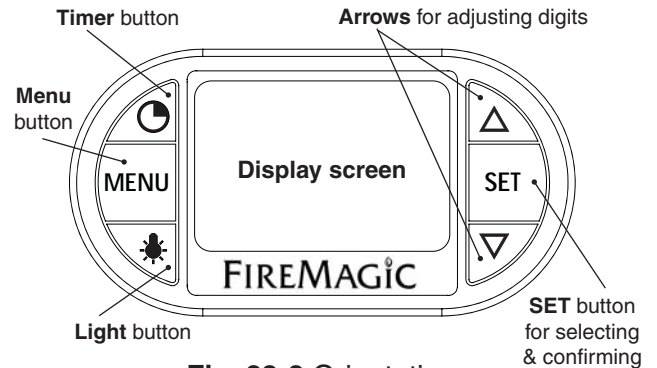

Fig. 23-2 Orientation
Read the following sections completely regarding thermometer operation. Refer to Fig. 23-2 for thermometer orientation and button locations.
1. Press the light button to turn both the interior lights and knob backlights ON (see Fig. 23-2). The interior lights will temporarily shut off when the hood is closed (except for Magic View models).